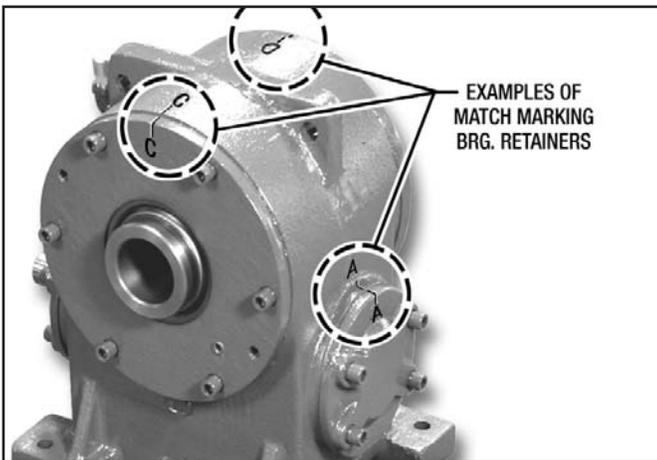

Figure 7.1 - Match-Marking Bearing Retainers
1. First Match-Mark all (4) Bearing Retainers for Orientation and Location. See *Figure 7.1* for examples. Use whatever method suits you best. Stamping, painting or marker. Just so they get reassembled back in the correct location and orientation.